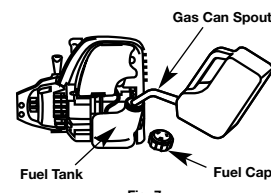

Fig. 7
1. Remove the fuel cap (Fig. 7).
2. Place the gas container's spout into the fill hole on the fuel tank (Fig. 7) and fill the tank.